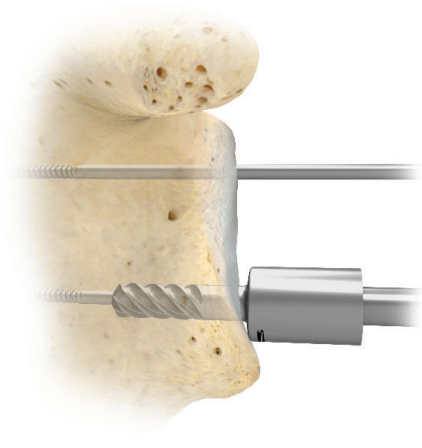
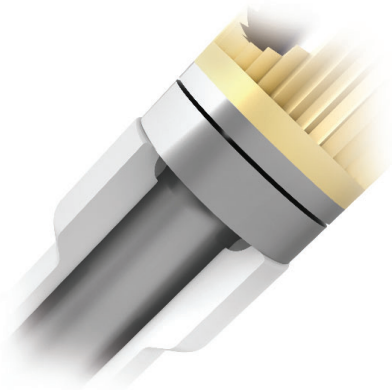

Figure 23
Figure 26
**Note:** In the event of a steep inclination and version angle, the 6 mm Cannulated Drill may not contact the glenoid surface (Figure 23). If such a situation is suspected, redrill with the 6 mm Cannulated Drill after complete surface reaming to ensure drilling is complete.
Hand ream until the Signature™ ONE Reamer Guide reaches the lateral end of the reamer shaft (Figure 26), ensuring that the medial end of the Signature™ ONE reamer guide contacts the bone surface (Figure 23).